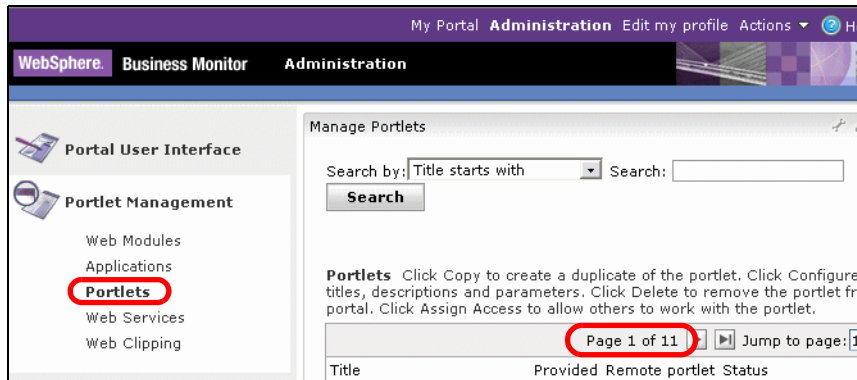

Figure 14-58 Portlets listing
- ▶ On the next page, select *Portlet management* → *Portlets* in the left pane (Figure 14-58).